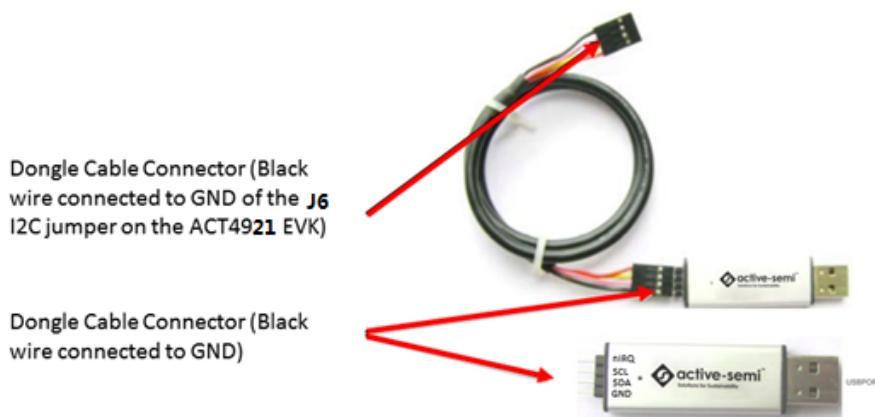

Figure 3 – USB-TO-I2C Dongle Connection
3. Connect the USB-TO-I2C dongle to the EVK J6 connector. Refer to Figure 3 to ensure the correct polarity of the connection. As a guide, use the "Active-Semi" logo on the top of the dongle so the black wire is connected toward the lower left corner of the Dongle.